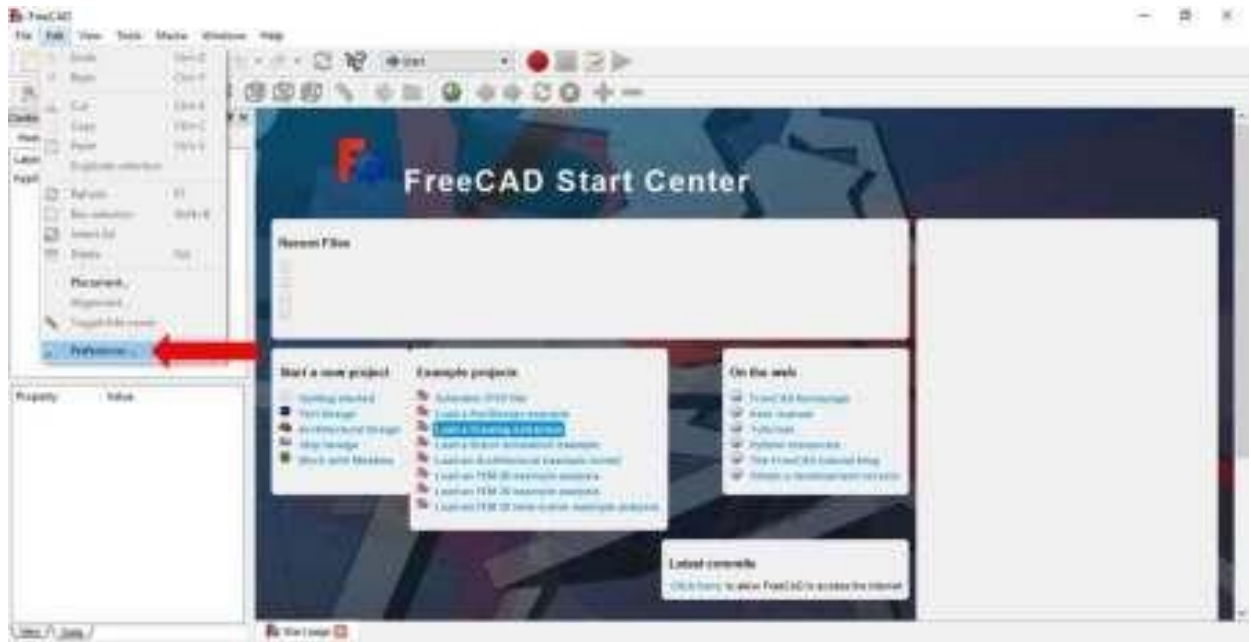

Figure 5 – Preferences window
1. Select and click the **Edit> Preferences** menu (Figure 5).